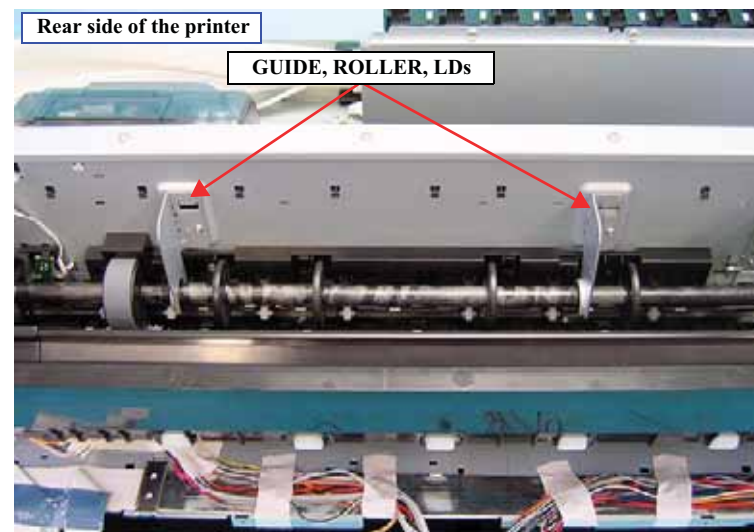

Figure 4-122. Removing the GUIDE, ROLLER, LDs
4. Lift up the two GUIDE, ROLLER, LDs on the rear side of the main unit to disengage the hook and the tab, and remove the GUIDE, ROLLER, LDs. *See Figure 4-122.*